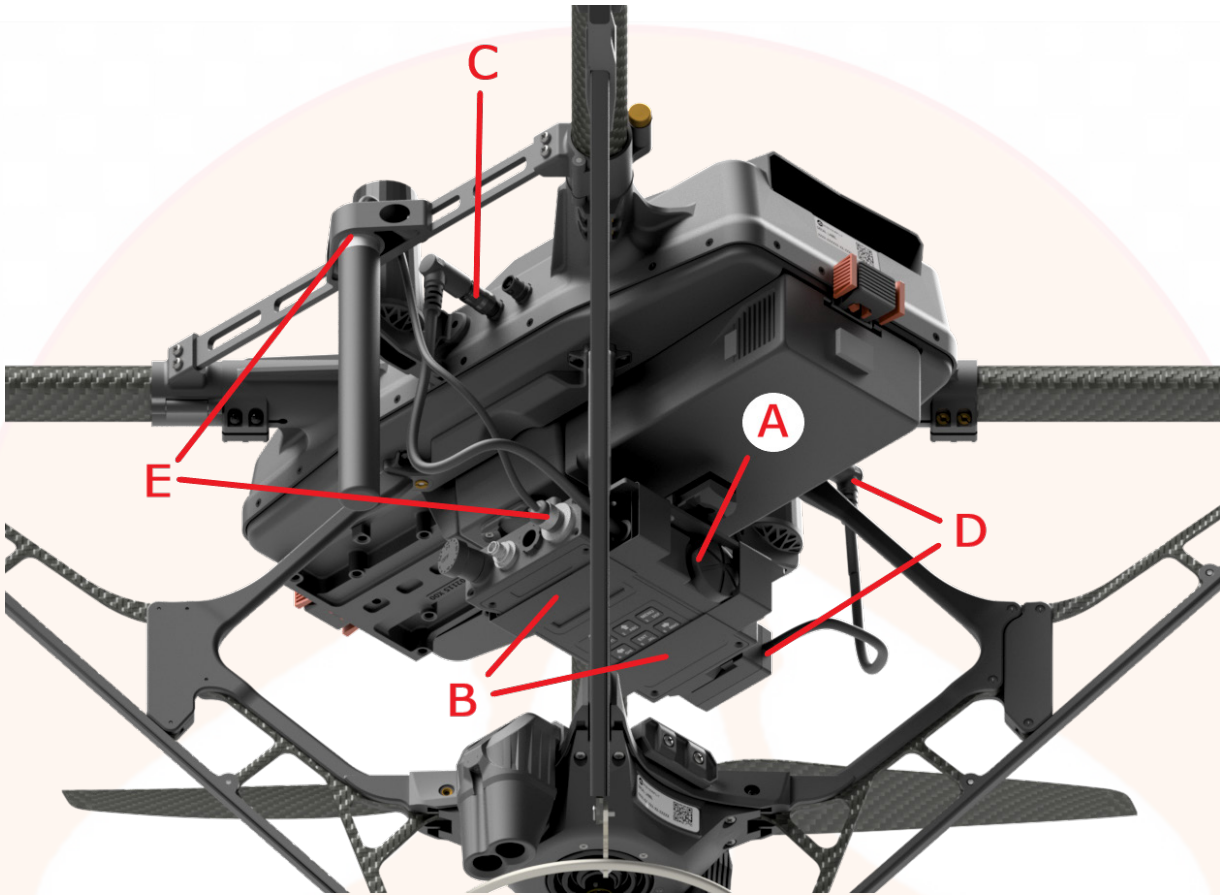

Figure 18: TW-900/950 Payload Kit Installation
1. Connect the HL, TW-950 Ethernet Cable Assembly to the side of the radio (**Figure 18, A**).
2. Insert the TW-900 or TW-950 radio into the two straps attached to the Universal Radio Plate, centered and oriented as shown, and then tighten the straps to secure the radio in place (**Figure 18, B**).
4. Connect the HL, TW-950 Ethernet Cable Assembly to the aircraft's **E1** connector (**Figure 18, C**).
5. Connect the HL, TW-900/950 Power Cable Assembly to the back of the radio and plug it into **P1** connector on the aircraft (**Figure 18, D**).
6. Install one Antenna Bracket with one Octane Antenna on the left side of the aircraft (see Bracket and Antenna installation instructions above), then connect the Octane Antenna cable to the radio's **RF TNC** connector (**Figure 18, E**).